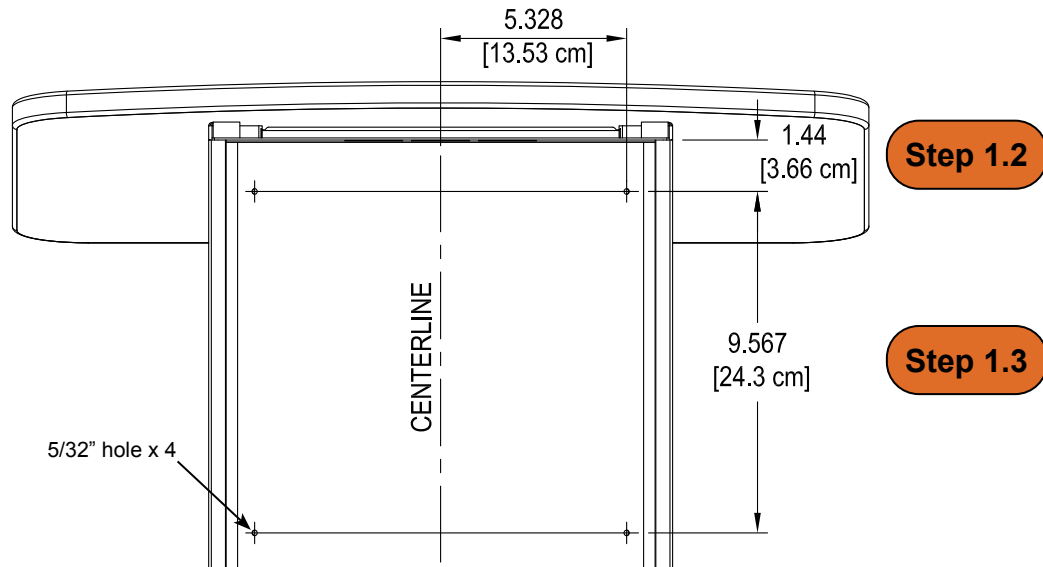

Figure 1
- Using a pencil and measuring tape, measure out and mark a centered vertical line on the audience-side panel. **Figure 1.** Use two points (one on top, one on bottom) to establish the line-this will provide the most accuracy.
- Place masking tape on the laminate at the (4) hole locations.
- Carefully drill through the audience-side panel at the (4) hole locations using a 5/32" drill bit. **Figure 1.**